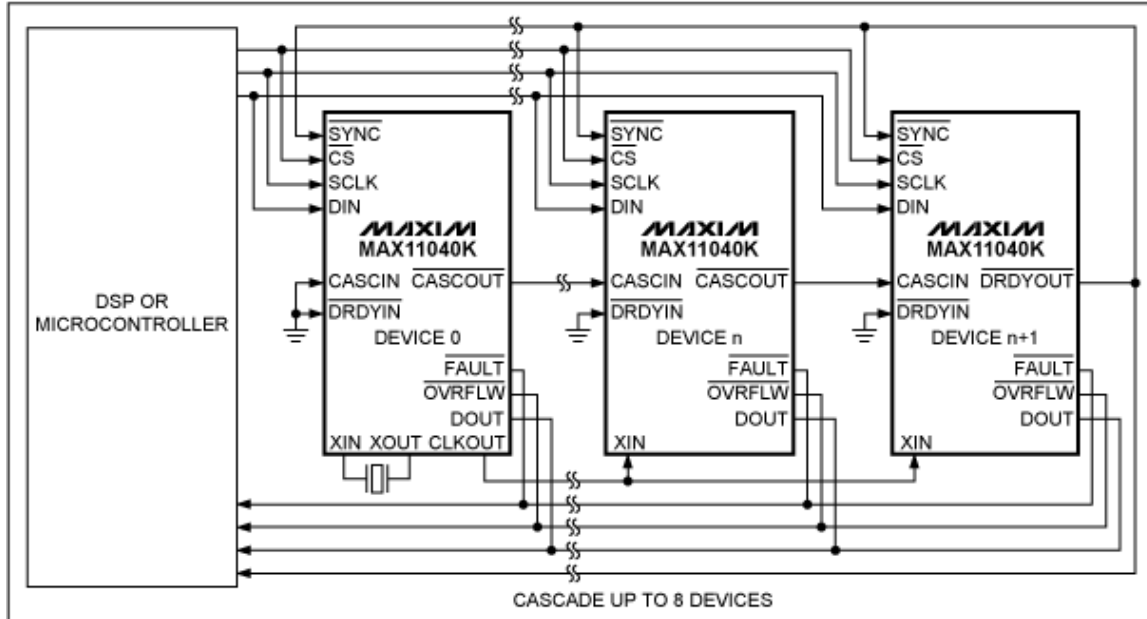

Figure 3. Diagram of the setup for cascading up to 8 MAX11040K devices.
**Figure 3** shows the device setup.